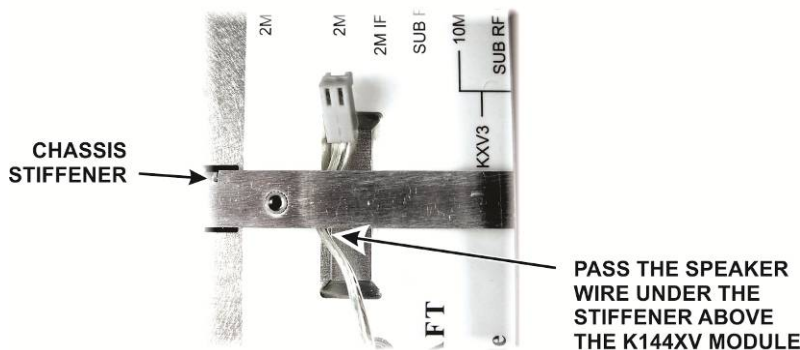

Figure 16. Routing the Speaker Wire Under the Chassis Stiffener.
- If you have the K144XV option installed, hold the top cover above the K3, route the speaker wire under the stiffener bar at the depression in the top of the K144XV module as shown in Figure 16.